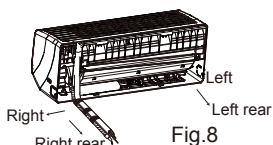

Fig.8
2. Take out the piping from body case, wrap the piping, power cords, drain hose with the tape and then make them pass through the piping hole. (As shown in Fig.8)